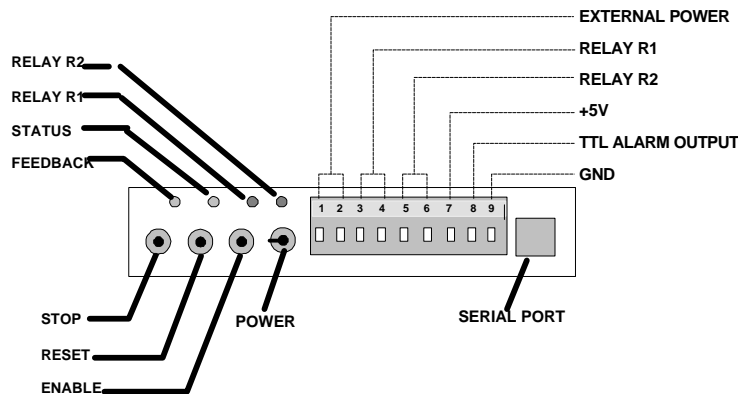

Figure 3-2: Feedback LED on MLCPU-1
10. Turn the logger power ON and observe the Feedback LED (Figure 3-2) on the MLCPU-1 module. Within a few seconds, the LED should blink 5 times indicating that a system reset has been performed. This is also a fairly good indication that the